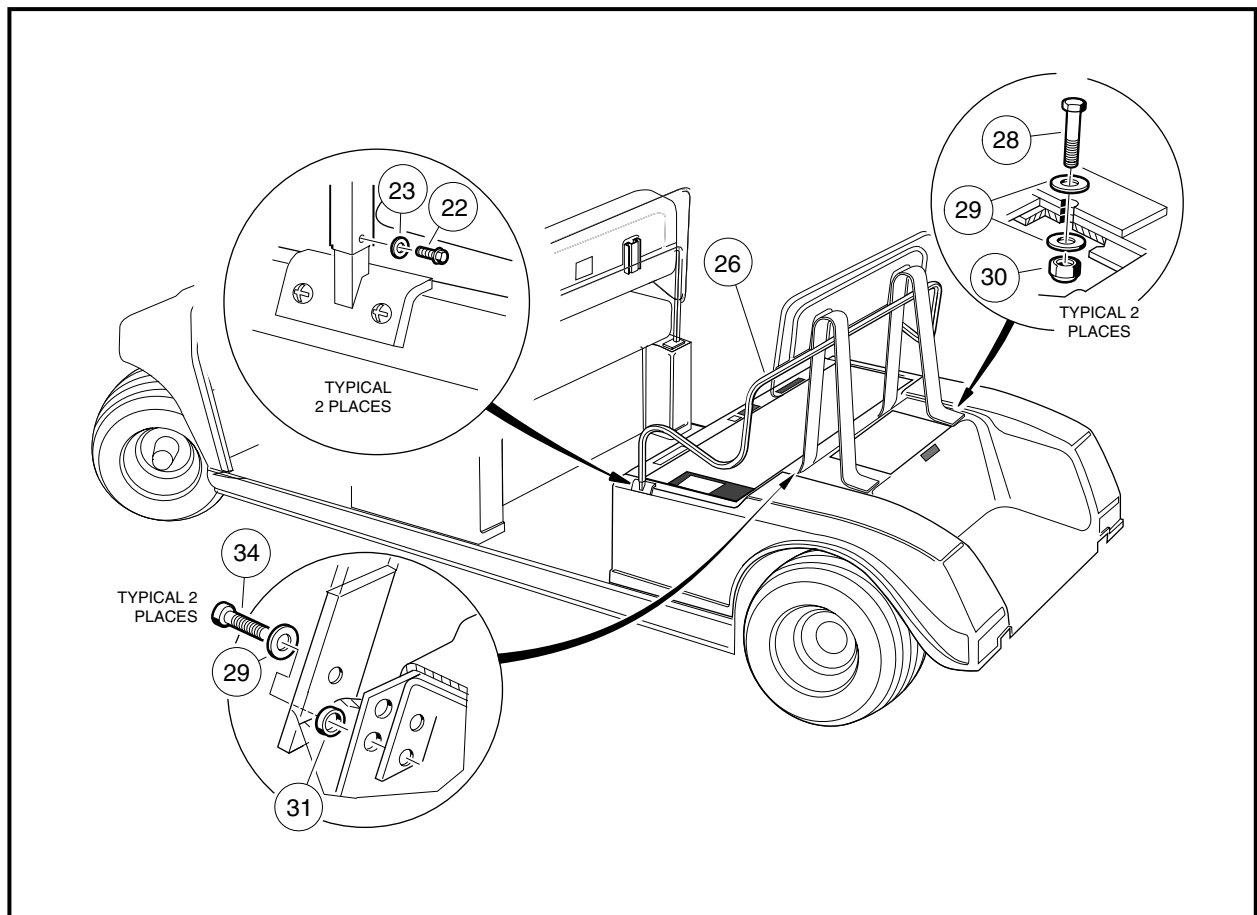

Figure 4-12 Rear Body – Villager 6 and 8
- 15.1. Remove screws (22) and washers (23) from each side of the armrest/setback assembly (26) (**Figure 4-12, Page 4-11**).
- 1.3. Tighten the two bolts (26 or 28), washers (25 or 29) and nuts (24 or 30) attaching the rear legs of the seat back support assembly to the body to 11 ft-lb (14.9 N·m) (**Figure 4-11, Page 4-10 or Figure 4-12, Page 4-11**).
- 1.4. Tighten four bolts (28 or 34), flat washers (25 or 29), and spacers (27 or 31) attaching the front legs of the seat back support assembly to the body to 20 in-lb (2.3 N·m) (**Figure 4-11, Page 4-10 or Figure 4-12, Page 4-11**).
- 1.9. Tighten the armrest mounting screws (22) to 9 ft-lb (12.2 N·m) (**Figure 4-12, Page 4-11**).